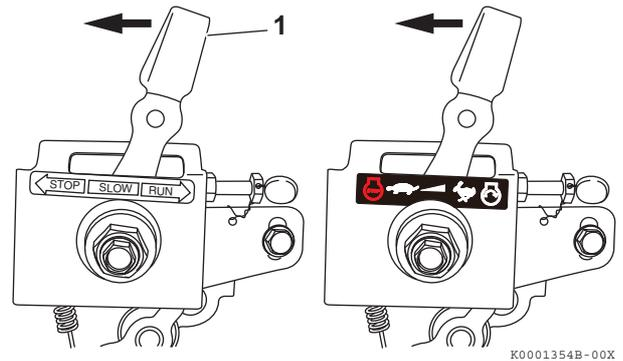

Figure 15
1. If your engine speed control is similar to **Figure 15** slide the engine speed control lever (**Figure 15, (1)**) in the direction shown to adjust the engine speed.